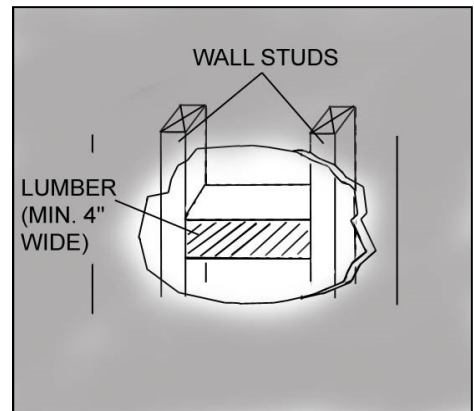

Figure 1
10. The first step is to secure the mounting screws on the wall. It is important that the screws are touching the wall studs. If necessary, install a cross lumber frame in the wall as shown in Figure 1.